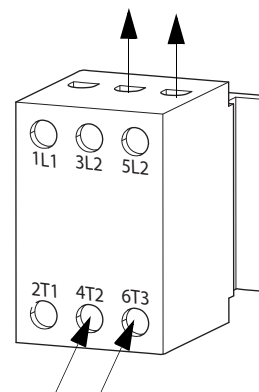

FIG. 9: Disconnect Switch Terminal Block
- Attach the ground wire to the ground stud inside the junction box (K).
- Refer to FIG. 9 and connect the wires from the power cord into terminals 4T2 and 6T3 on the disconnect switch terminal block.